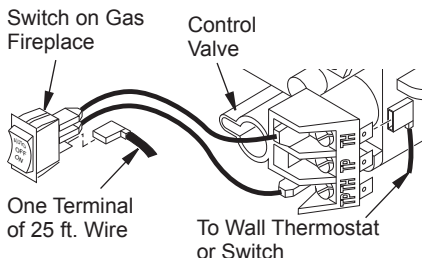

Figure 32 - Connecting Wire Terminals
1. Connect one terminal of 25 ft. wire to bottom contact of switch (see Figure 32).
2. Connect remaining wire terminal to "TH" terminal on control valve. Make sure that wire terminals are in the positions on your unit as pictured in Figure 32. If wires are not "crossed" thermostat will not work.
1. Connect one terminal of 25 ft. wire to bottom contact of switch (see Figure 32, page 21).
2. Connect remaining wire terminal to "TH" terminal on control valve. Make sure that wire terminals are in the positions on your unit as pictured in Figure 32, page 21. If wires are not "crossed" thermostat will not work.